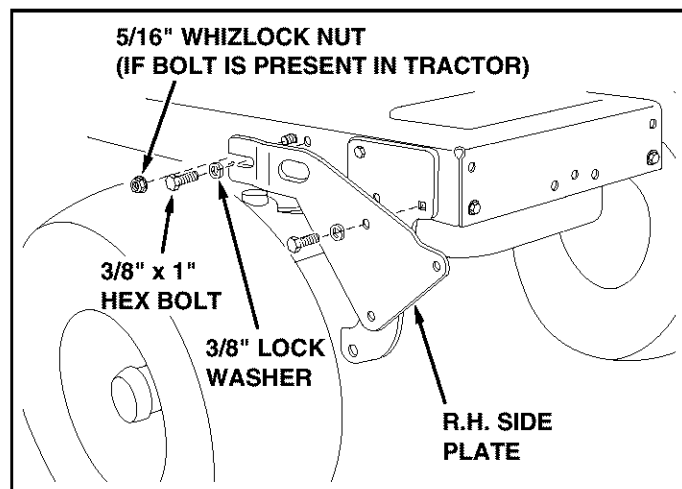

FIGURE 2 RIGHT SIDE VIEW
- Assemble the R.H. Side Plate (marked "R") to the now empty holes in the right side of the tractor frame. Use two 3/8" x 1" hex bolts and 3/8" lock washers as shown in figure 2. Repeat for the L.H. side.